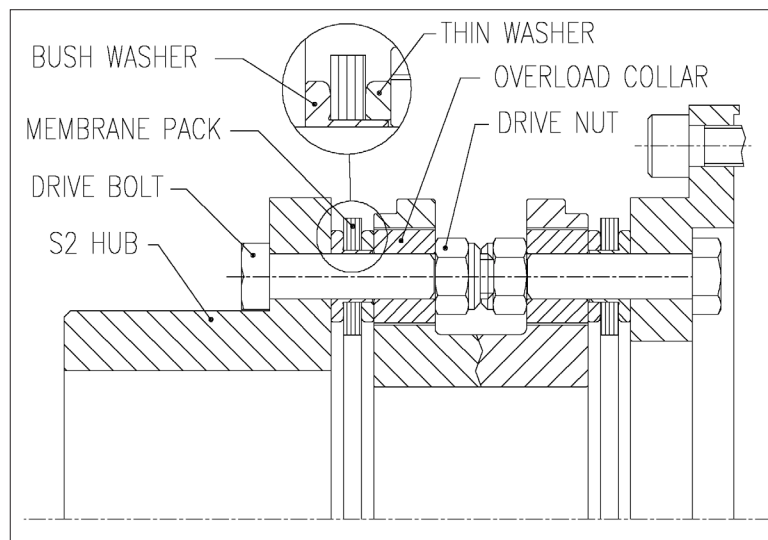

Figure 3 — Installation of First Three Drive Bolts
- 3.5.10. Install three of the drive bolts through the small holes in the hub and then through the membrane pack and overload collar as shown in fig.3. Note the correct orientation of the membrane pack - the integral thin washers should be adjacent to the overload collars. Hand tighten the drive nuts.